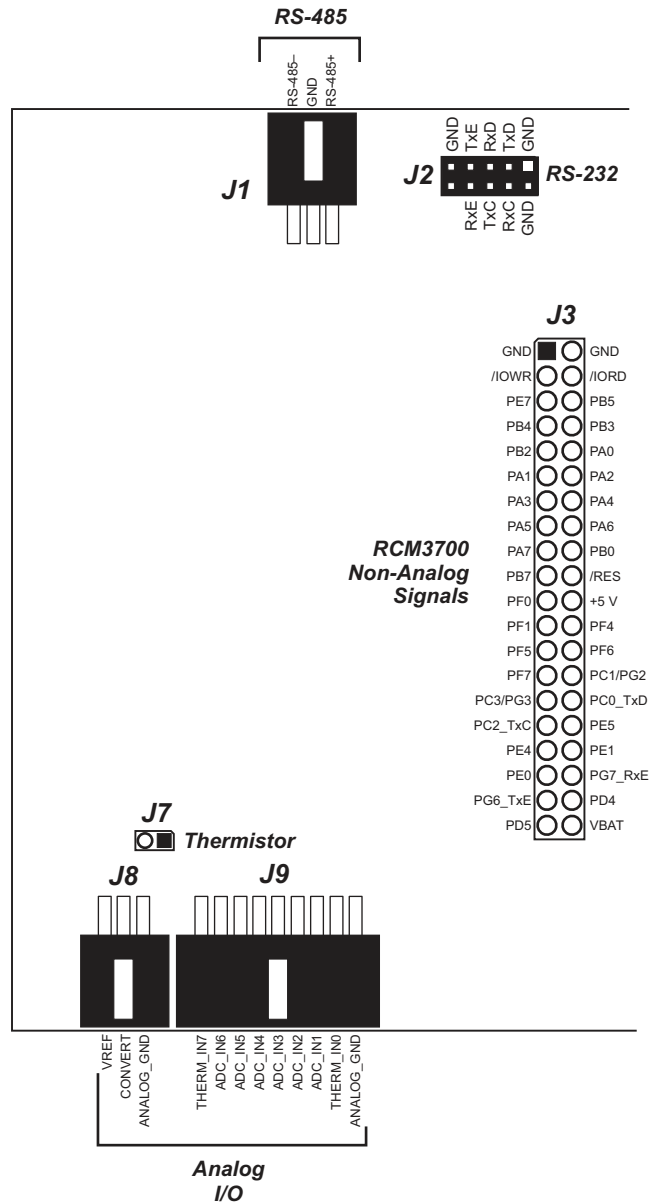

Figure B-4. Prototyping Board Pinout
- **Module Extension Headers**—The complete non-analog pin set of the RCM3600 module is duplicated at header J3. Developers can solder wires directly into the appropriate holes, or, for more flexible development, a 2 x 20 header strip with a 0.1" pitch can be soldered into place. See Figure B-4 for the header pinouts.
- **Analog I/O Shrouded Headers**—The complete analog pin set of the RCM3600 Prototyping Board is available on shrouded headers J8 and J9. See Figure B-4 for the header pinouts.
The Prototyping Board pinouts are shown in Figure B-4.
Analog input THERM_IN7 on the Prototyping Board was designed specifically for use with a thermistor in conjunction with the `THERMISTOR.C` sample program, which demonstrates how to use analog input THERM_IN7 to calculate temperature for display to the Dynamic C **STUDIO** window. The sample program is targeted specifically for the thermistor included with the Development Kit with $R_0 @ 25^\circ\text{C} = 3 \text{ k}\Omega$ and $\beta 25/85 = 3965$. Be sure to use the applicable R_0 and β values for your thermistor if you use another thermistor. Install the thermistor at location J7, which is shown in Figure B-4.